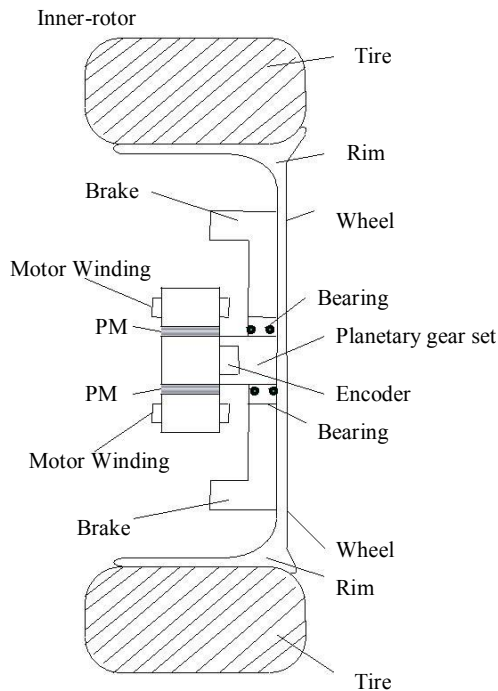

Figure 6a: Inner rotor *In Wheel* drive [1]
- When a high-speed inner-rotor motor is used (**Figure 6a**) then a fixed speed-reduction gear becomes necessary to attain a realistic wheel speed. In general, speed reduction is achieved using a planetary gear set. This planetary gear is mounted between the motor shaft and the wheel rim. Usually this motor is designed to operate up to 1000 rpm so as to give high power density.